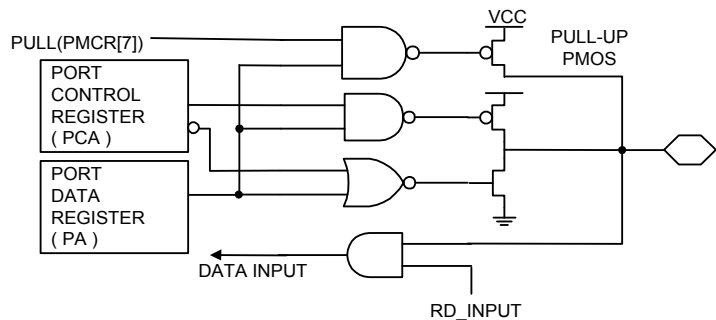

FIGURE 8-1: Port-A Configuration Function Block Diagram
PORT A contains pull-up MOS transistors. The PULL control bit (PMCR[7]) controls the on/off of all the pull-up MOS simultaneously. The on/off of every pull-up MOS transistor will be controlled by port data register (PA) and the pull-up MOS will be enabled with data bit "1" and disable with data bit "0". Please refer to the FIGURE 8-1: .
When programmer enables INTX and PT interrupts, PA0 trigger occur. INTX and PT interrupts will therefore happen sequentially. Please refer to the FIGURE 8-1: .